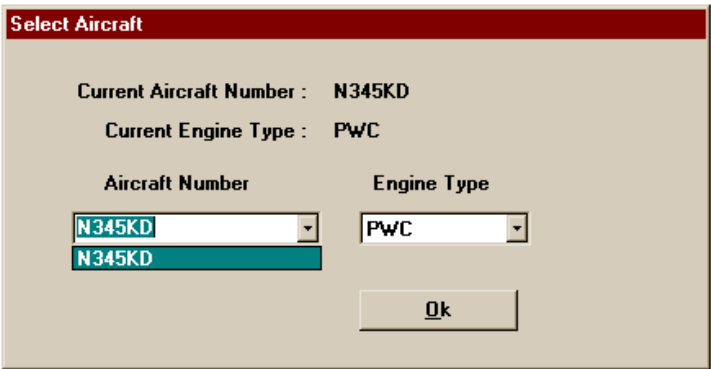

Figure 54. Select Aircraft Screen
- 2. In the Select Aircraft Screen, use **TAB** key (or mouse) to select the Aircraft Number field (refer to Figure 54).